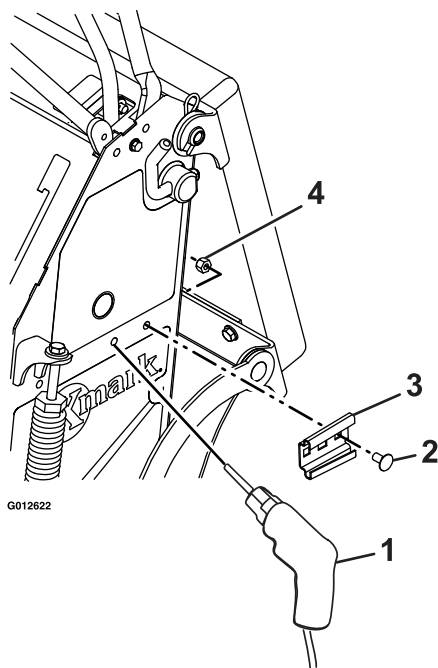

Figure 11
- A. The bracket is installed on the left side panel with the wide opening pointed toward the rear of the machine as shown in Figure 11.
- D. Using the mounting bracket as a template, mark the left hole location onto the side panel of the unit and drill 11/32 inch diameter hole (see Figure 11).